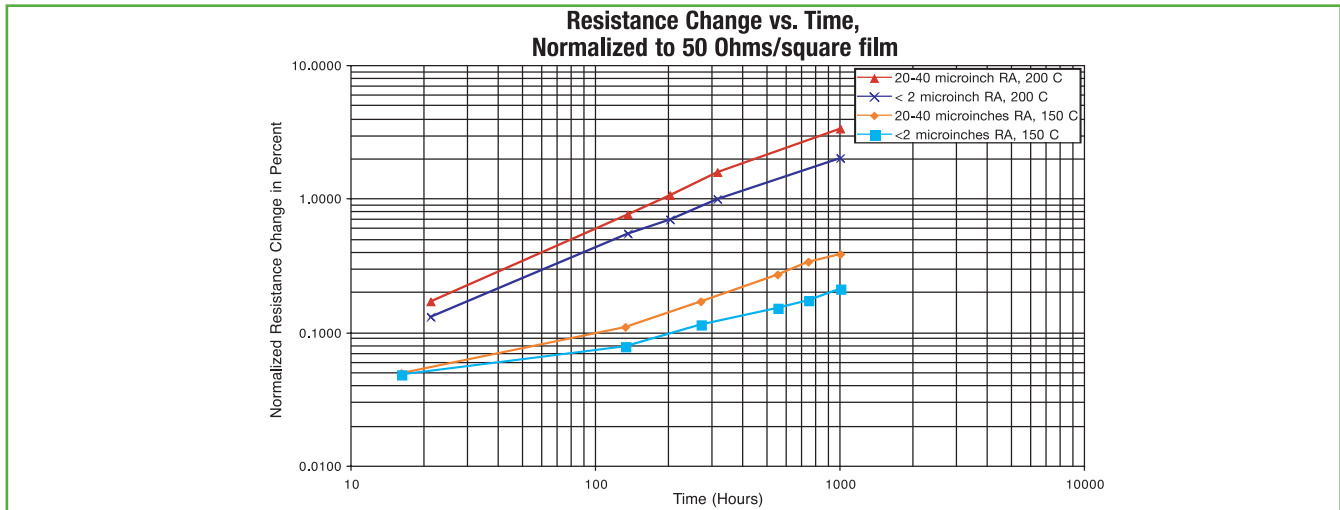

Figure 5: Normalized percent resistance change of TaN oven-aged resistors
Figure 5 shows the average measured change in resistance of four groups of ten each Ta₂N thin-film resistors placed in an oven – no applied power to the resistors – and aged for 1000 hours. The latter number of hours appears to be a de facto industry specification, although the governing military spec, MIL-PRF-55342 calls out 2000 hours. Measurements were made at two different temperatures and were repeated on AlN supplied by different vendors (not shown), and on substrates from the same vendor but having different average surface roughnesses. In general, resistance change during aging, $\Delta R/R$ when expressed as a percentage of initial resistance, followed the formula predicted by theory,¹
scaled by the ratio of actual film resistivity, 72 ohms/square, to 50 ohms/square using equation (1). Since the substrate used had an average surface roughness of 20-40 microinches, the lower curve should be comparable to the 200 °C oven-aged result for this substrate shown in Figure 5. The results are indeed close; oven aging (1000 hours, 200 °C) produced a 3.4% change, AC power aging (907 hours, 190 °C, peak) produced a 3.4% change. This good agreement, however, is somewhat misleading. In addition to the slightly different test times, there are uncertainties connected with the production resistors that make the exact comparison less accurate: (1) Their area-average temperatures were less than the peak temperatures; (2) their exact surface roughness had a range of 20 microinches; and 3) their widths were laser trimmed by amounts ranging from 0 – 20%.